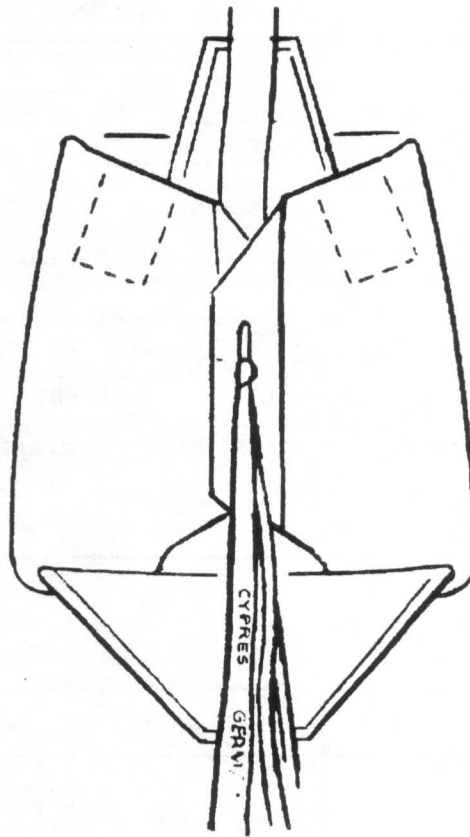

FIG. 7
- 8) Thread the pull-up cord through the closing loop and close each side flap in turn, routing the bridle out the bottom of the container. Try to keep the bulk of the canopy away from the center of the container while closing the side flaps. Secure the side flaps with the temporary pin (FIG. 7), then push the tuck flaps in under the folded canopy at the upper edge of each side flap.